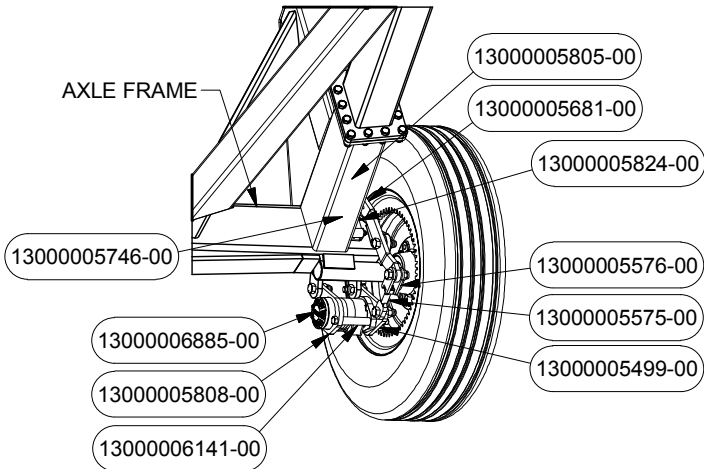

FIGURE 10
11. Attach the Linkage PN# 5576 and PN# 5575 to the Mount Plate PN# 5499 using Hex Bolt c/w Stover Nut. Attach the Handle PN# 5681 to the Linkage and mount it to the Axle Frame using Hex Bolts c/w Stover Nut. Place the Handle Grip PN# 5805 to the Handle (see Figure 10).